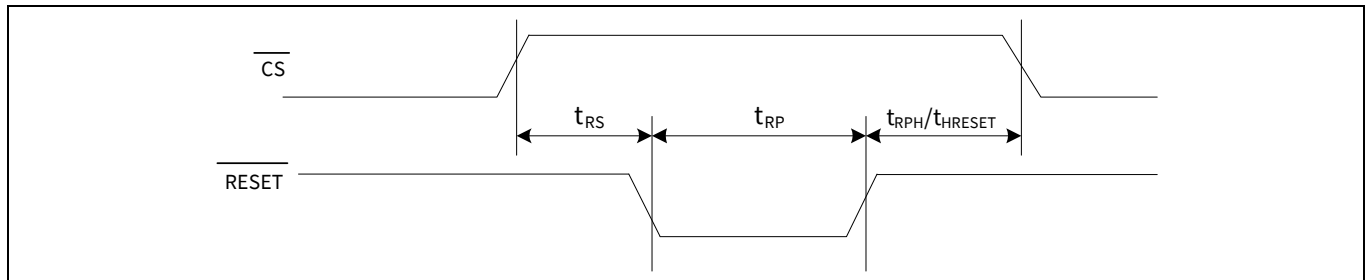
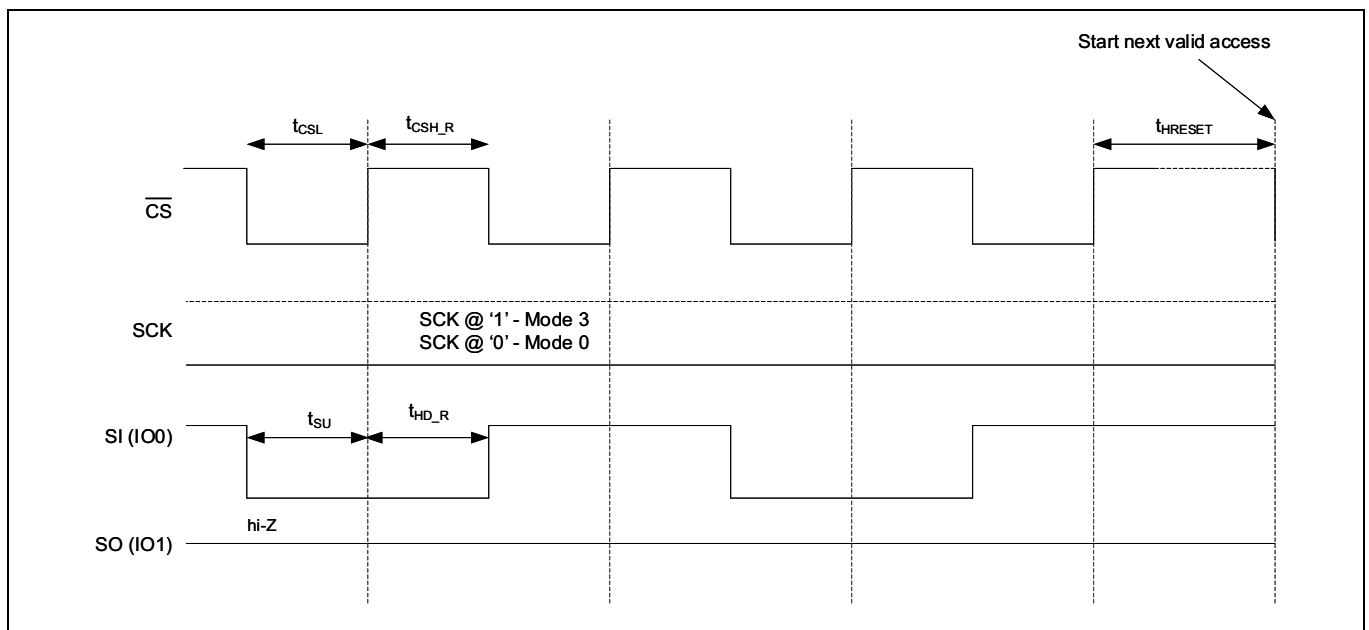

Figure 110 $\overline{\text{RESET}}$ timing - SPI with QUAD set (CR1[1]='1') or QPI enabled (CR2[6]='1')
Figure 112 JEDEC SPI reset
The hardware reset input ($\overline{\text{RESET}}$) is multiplexed on ($\overline{\text{RESET}} / \text{I/O3}$) and is an active LOW signal in CY15x104QSN device. Refer to **Table 21** for hardware reset ($\overline{\text{RESET}}$) pin configurations across various SPI interfaces. When $\overline{\text{RESET}}$ is pulled LOW, CY15x104QSN self initializes and brings its configuration back to the power up status. Refer to **Table 59** for different registers configuration after $\overline{\text{RESET}}$ cycle. Once $\overline{\text{RESET}}$ is issued, CY15x104QSN takes $t_{\text{RPH}}/t_{\text{HRESET}}$ time from $\overline{\text{RESET}}$ rising edge to complete the reset cycle. CY15x104QSN becomes inaccessible during t_{RPH} time. **Figure 110** to **Figure 112** show the $\overline{\text{RESET}}$ timings in different reset mode.
- The $\overline{\text{RESET}}$ pin is multiplexed on I/O3 in the QPI mode. When using the hardware ($\overline{\text{RESET}}$) in QPI mode, the CR2 [5] bit must be set to '1' to enable to use I/O3 as $\overline{\text{RESET}}$ input when $\overline{\text{CS}}$ is HIGH. **Figure 110** shows the $\overline{\text{RESET}} / \text{I/O3}$ timing in QPI mode
Refer to **Figure 112** for timing details.